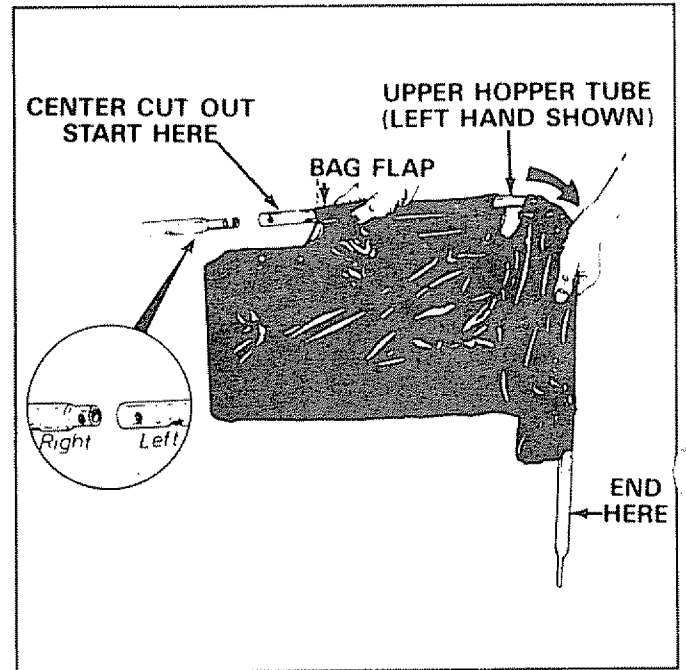

FIGURE 10
1. Insert the left hand upper hopper tube through the hopper bag stitched flaps, starting at the center cut out in the top of the hopper bag. See figures 10, 11 and 12. Repeat for the right hand upper hopper tube.